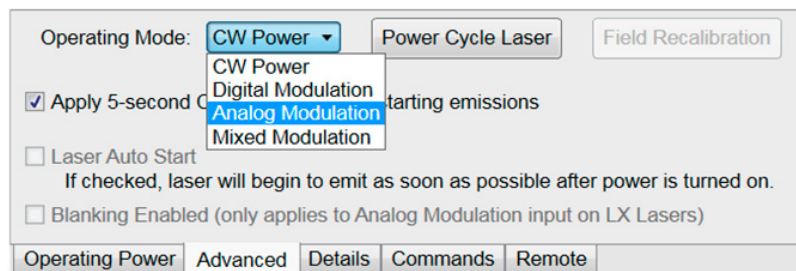

Figure 4-30. Operating Mode Drop-down
- **Operating Mode:** Select between CW Power, Digital, Analog and Mixed Modulation (representing on/standby control). Refer to Figure 4-30. (Not applicable to all lasers.)